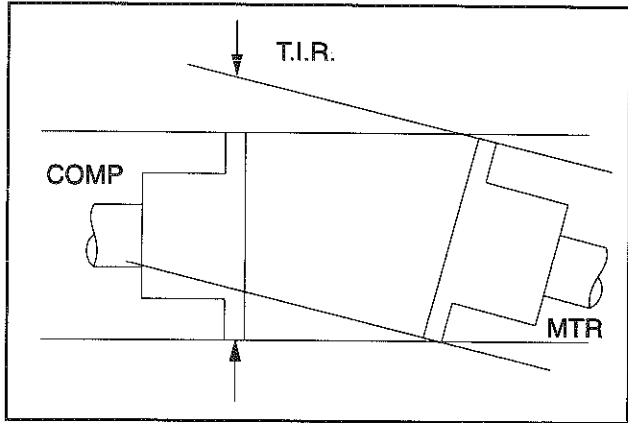
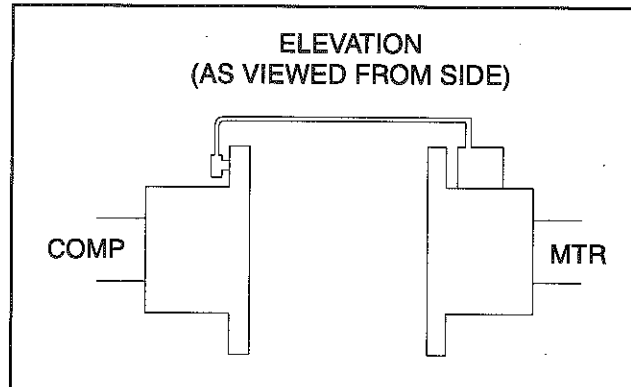

FIG. 1 - ANGULAR MISALIGNMENT
FIG. 2 - DIAL INDICATOR ATTACHED (AT 12 O'CLOCK)
1. To check angular alignment, as shown in Fig. 1., attach dial indicator rigidly to the motor hub. Move indicator stem so it is in contact with the outside face of compressor hub, as shown in Fig. 2.
3. Set the dial indicator at zero when viewed at the 12 o'clock position, as shown in Fig. 2.